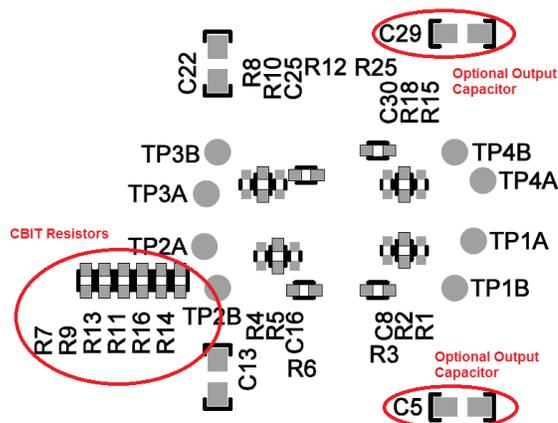

Figure 3. C Bit Resistors and Optional Output Capacitors for V_{OUT1} and V_{OUT4}
2. Set the associated C bit pins high or low as per Table 1 by opening and populating the appropriate resistors. C1, C2 and C3 are set high by populating R7, R11 and R14 respectively. C1, C2 and C3 are set low by populating R9, R13 and R16 respectively. The C bit resistors are 0603 resistors located on the bottom of the board as shown in Figure 3.
9. The output capacitance requires a minimum of 22μF for each 1A of output current. Each output has an optional 0805 capacitor on the bottom of the board. Add the required amount of capacitance to C5 and/or C29 (shown in Figure 3) for V_{OUT1} and V_{OUT4} respectively, if needed.